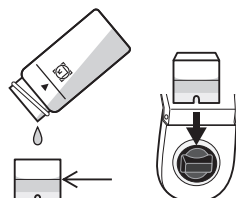

Fig.7
9. Before 10 minutes pass, pour 1.5 mL from the vial into the cell. Insert the cell into the cell box (At this time, rinse the cell with sample of the vial.) (Fig.7)